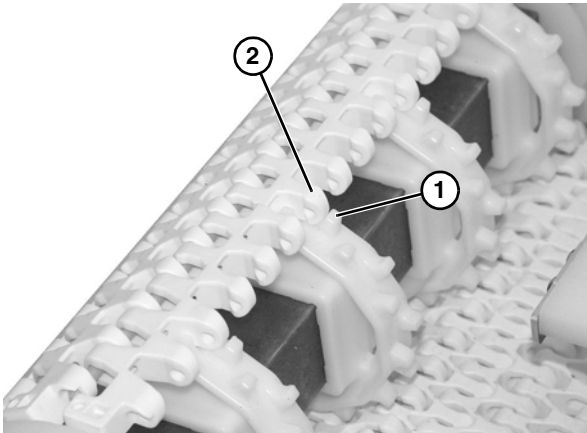

Figure 13
4. Wrap the belt around the drive end of the conveyor, making sure the sprocket teeth have engaged the belt, with concave teeth (**Figure 13, item 1**) mating with rounded section (**Figure 13, item 2**) of belt.